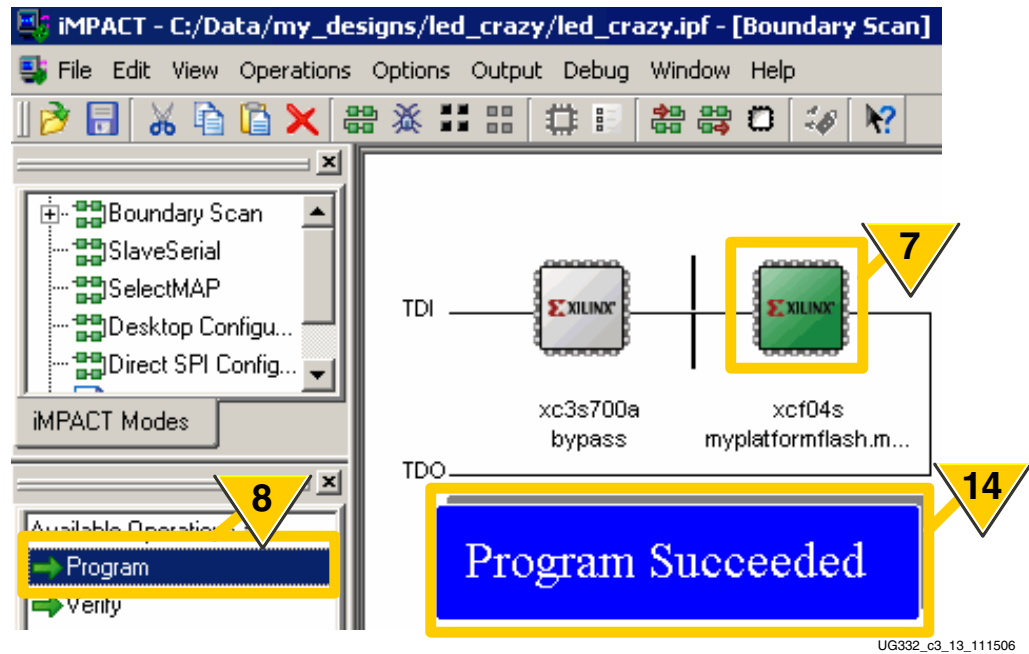

Figure 3-18: Program the Platform Flash PROM
- As shown in Figure 3-18, the iMPACT software updates the screen image, showing the files to be loaded to each device in the JTAG chain. To program the Platform Flash PROM, first click to highlight the XCF04S PROM.
14. The iMPACT software indicates successful programming, as shown in Figure 3-18.